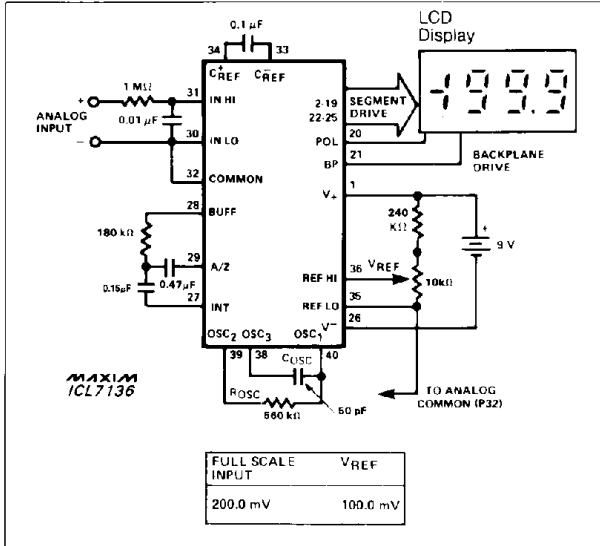

Figure 1. Maxim ICL7136 Typical Operating Circuit
**Note 3:** Unless otherwise noted, specifications apply at  $T_A = 25^\circ\text{C}$ ,  $f_{\text{CLOCK}} = 16\text{kHz}$  and are tested in the circuit of Figure 1.
(V+ = 9V; TA = 25°C; fCLOCK = 16kHz; test circuit - Figure 1; unless noted)
**Note 8:** Test condition is VIN applied between pins IN-HI and IN-LO through a 1MΩ series resistor as shown in Figure 1.
**Note 12:** 1MΩ resistor is removed from circuits in Figure 1.